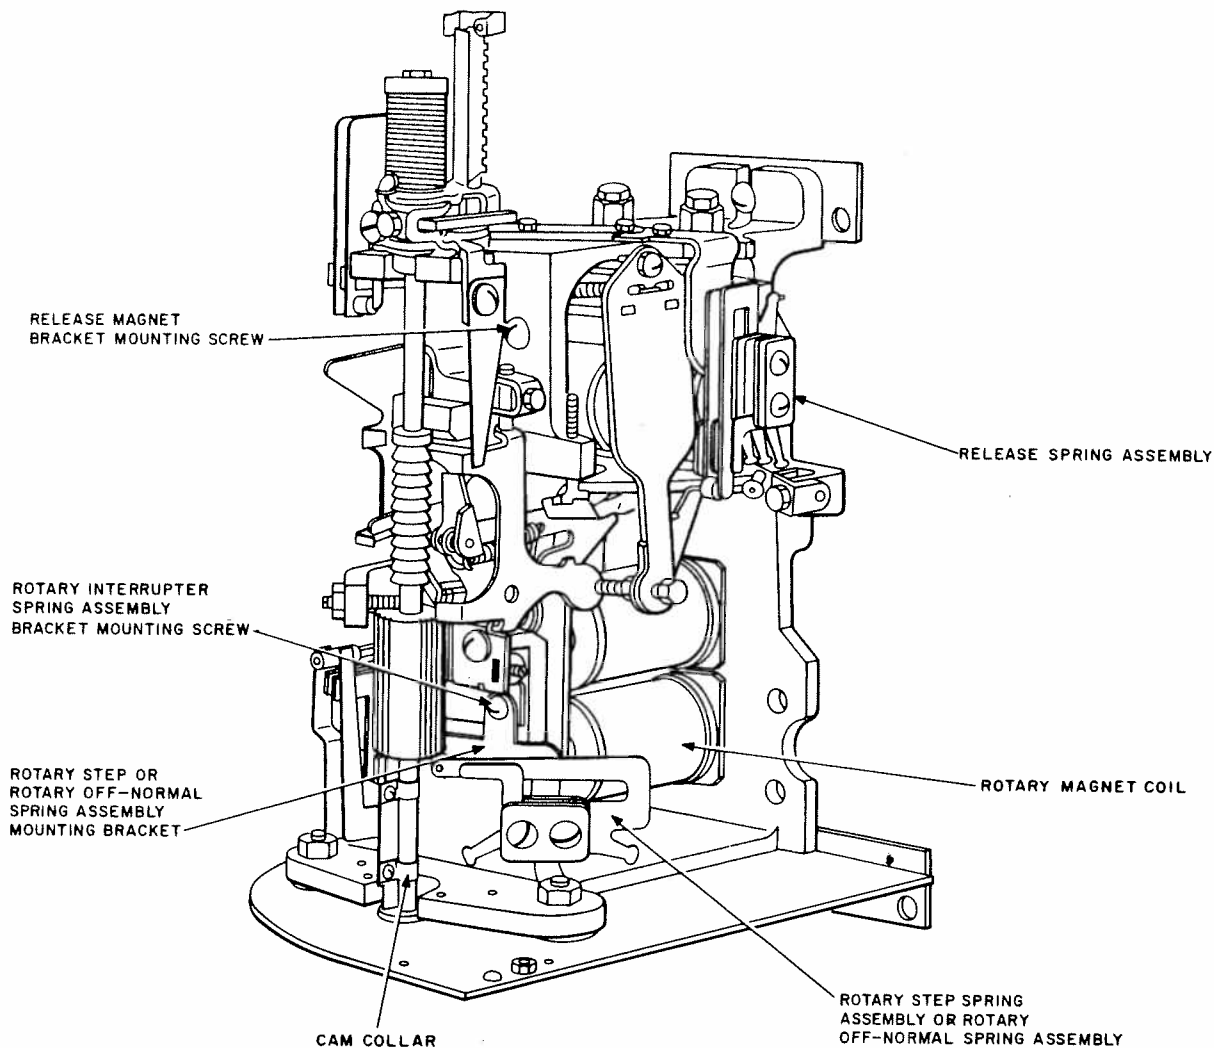

Fig. 10 — Parts of 197-Type Switch as Viewed From the Right Side
3.08 Release Spring Assembly (Fig. 10): To replace this spring assembly, tag and disconnect the leads connected to the springs. Remove the screw which mounts the release spring assembly bracket to the frame with the 563A or 564A offset screwdriver. Remove the release spring assembly from the frame by drawing the assembly toward the front or rear of the switch as required to free the contact springs from the stud on the release armature. Mount the new